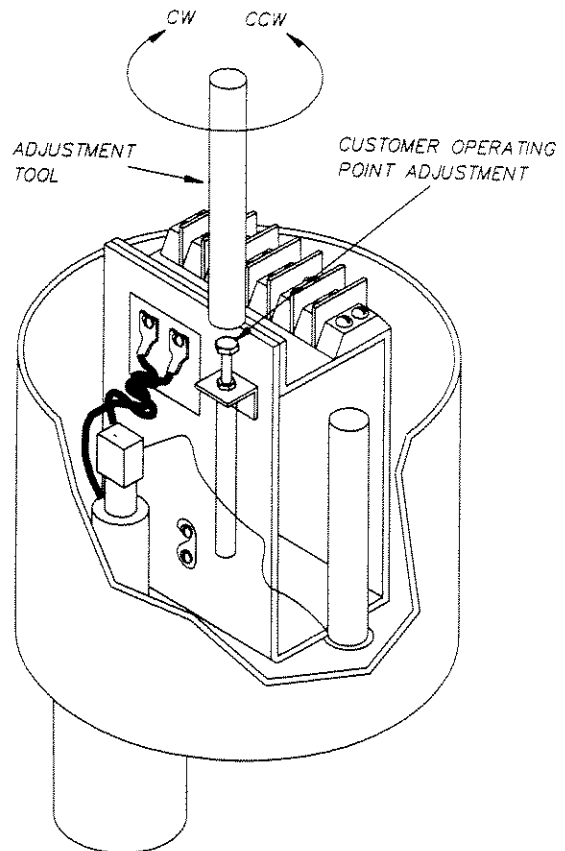
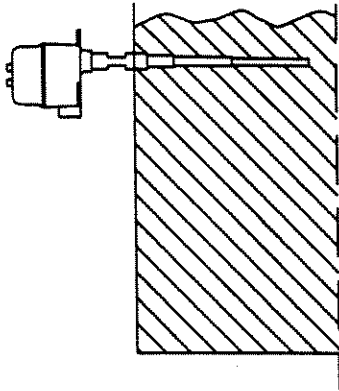

Figure 4-1
Figure 4-4
There is a single operating adjustment used to control the level at which the relay operates. See Figure 4-1. Turning this adjustment clockwise (CW) will raise the level at which the relay operates, and turning the adjustment counterclockwise (CCW) will lower the level at which the relay operates. The LED (on) indicates the relay is energized.
**Note:** Be sure to use the insulated calibration tool. See Figure 4-1. Do not turn any adjustment past its mechanical stops; damage to the unit may occur. LED on indicates that the relay is energized or in normal condition (not alarm).
- B. Using the insulated tool supplied with the instrument, turn the operating point adjustment to the full counterclockwise (CCW) position. See Figure 4-1.
- C. Turn the adjustment slowly clockwise (CW) until the relay just operates. (LED changes states).
- D. Increase the material level until it is well above the sensing element. See Figure 4-4. (LED changes states.)
- B. With the insulated tool supplied, start from the full counterclockwise (CCW) position and, counting the number of turns, turn the operating adjustment clockwise (CW) until the relay just operates. (LED changes states.) See Figure 4-1.